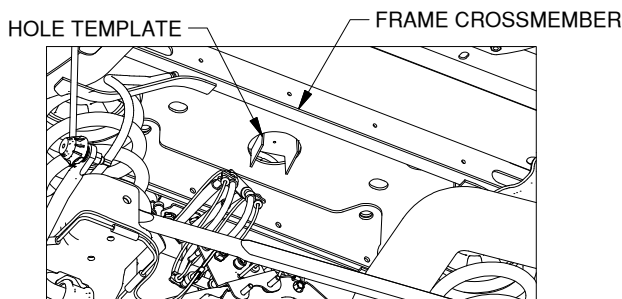

FIGURE A6: looking under truck bed towards cab.
8. **Mark the location of the 3-1/2" hole.** Insert the hole template into the center hole of the frame cross member as shown in figure A6. Push the template upward until it is flush against the bottom of the bed floor. Make a mark on the truck bed floor through the hole in the hole template using a pencil, marker, or other tool. Once the center point is marked, remove the template. Use a center punch to place an indentation in the truck bed at the center of the mark. Using a drill and a 1/4" bit, drill a pilot hole through the bed in this location.